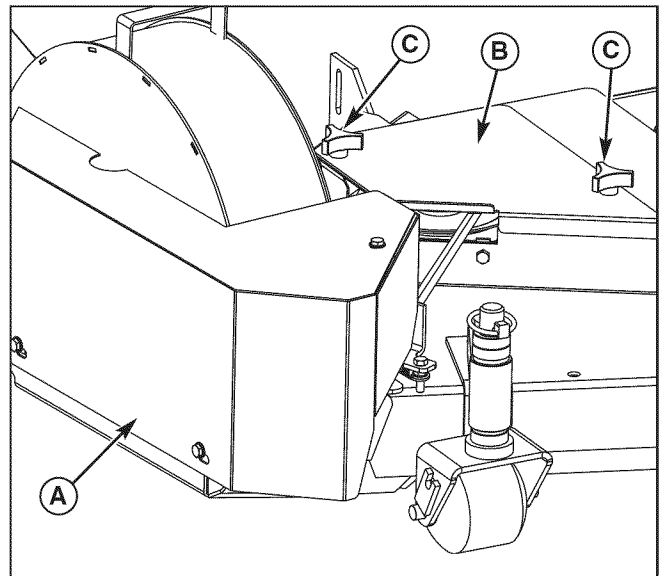

Figure 30. Install Guards
5. Install the blower belt guard (A, Figure 30) and secure with the flange head bolts previously removed.
6. Install the deck guard top (B) and secure with the supplied knobs (C).